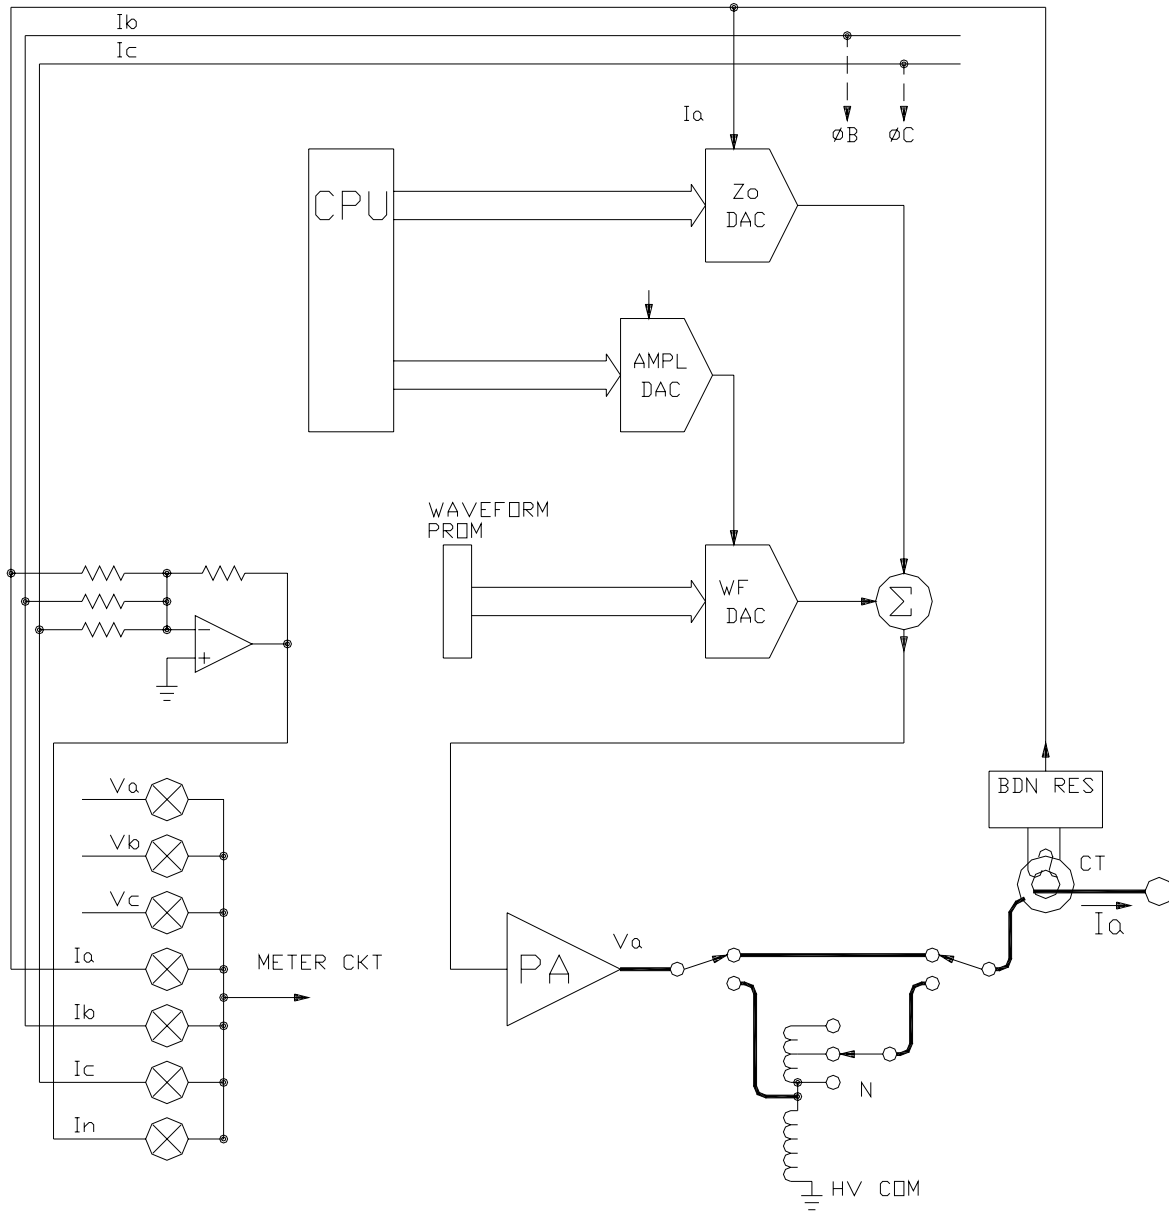

Figure 1 – Prog-Z Block Diagram
Refer to Figure 1. When Prog-Z is off, the UPC CPU sets both the output amplitude and waveshape (as programmed by the operator) by loading the appropriate data into the Amplitude and Waveform digital-to-analog converters. The output of the Waveform (WF) DAC then provides a low voltage, analog representation of the desired output to the appropriate Amplifier stage. The Power Amplifier then replicates the oscillator waveform and provides the voltage and current necessary to drive the equipment under test.